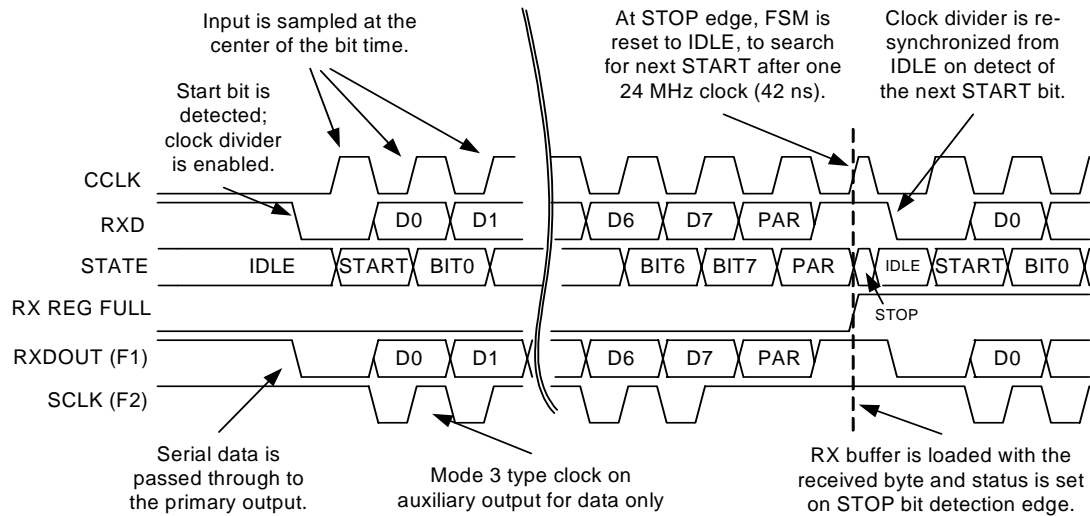

Figure 17-26. Receiver Operation
**Receive Operation.** A clock, which must be 8X the desired baud rate, is selected as the CLK input. This clock is an input to the RX block clock divider. When the receiver is idle, the clock divider is held in reset. As shown in Figure 17-26, reception is initiated when a START bit (logic '0') is detected on the RXD input. When this occurs, the reset is negated to the clock divider and the 3-bit counter starts an up-count. The block clock is derived from the MSB of this counter (corresponding to a count of 4), which serves to sample each incoming bit at the nominal center point. This clock also sequences the state machine at the specified bit rate.
To facilitate connection to other digital blocks, the RXD input is passed directly to the RXDOOUT (primary) output. The SCLK (auxiliary) output has an SPI mode 3 clock associated with the data bits (for mode 3 timing see Figure 17-26). During the mark (idle) and framing bits the SCLK output is high.